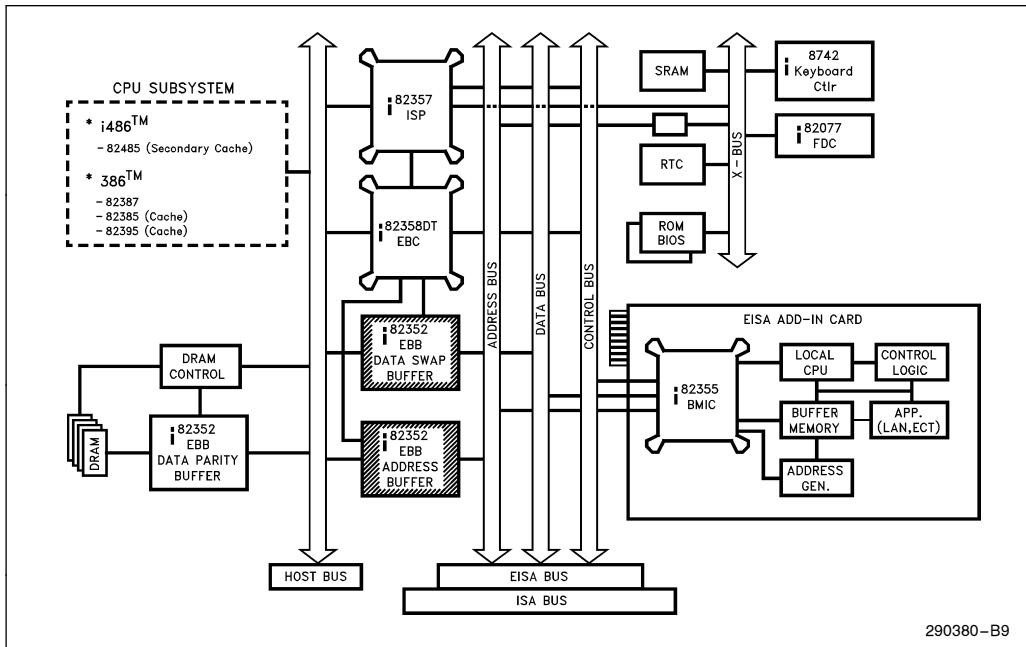

Figure 4-5. Data Swap Logic (82350 System)
**In an 82350, and an 82350DT/buffered environment,** the data swap logic is implemented using an EISA Bus Buffer (EBB) selected for data mode (mode 0). The data swap logic is placed between the EISA/ISA bus and the host bus as shown in Figures 4-5 and 4-6.
Bus Buffer (EBB) selected for address mode (mode 3). The EBB's are used for address communication between the LA, SA, and host address buses. The EBB is positioned as shown in Figures 4-5 and 4-6.